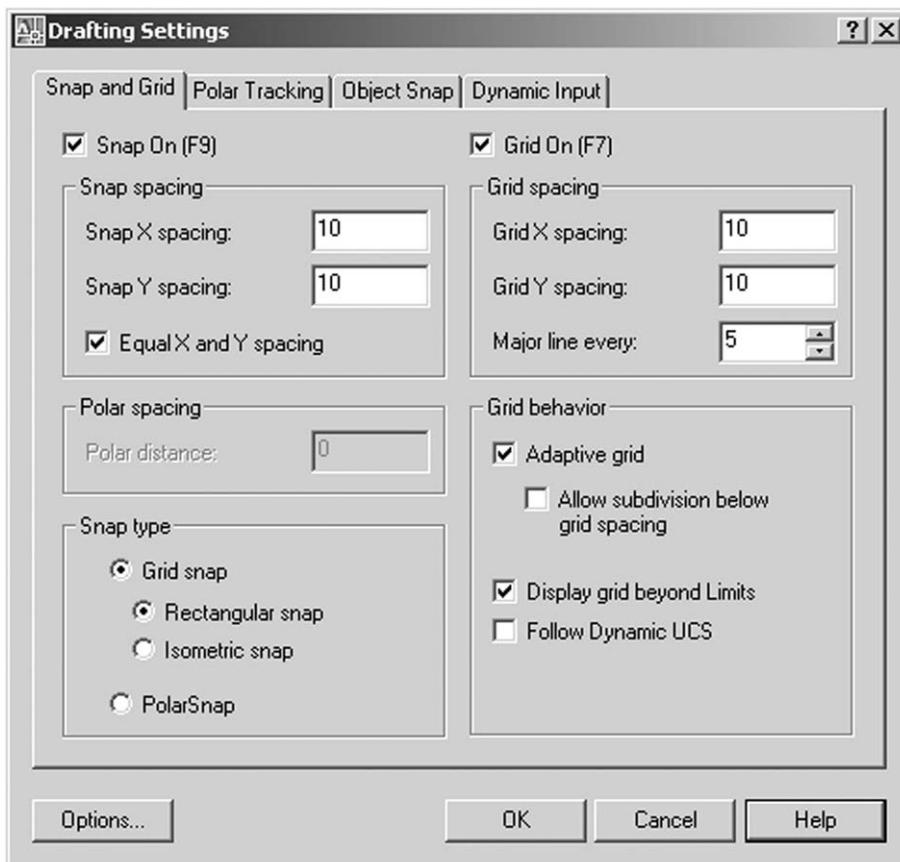

Figure 4.2 The Drafting Settings (Snap and Grid tab) dialogue box.
- ensure Rectangular grid snap active (Figure 4.2)